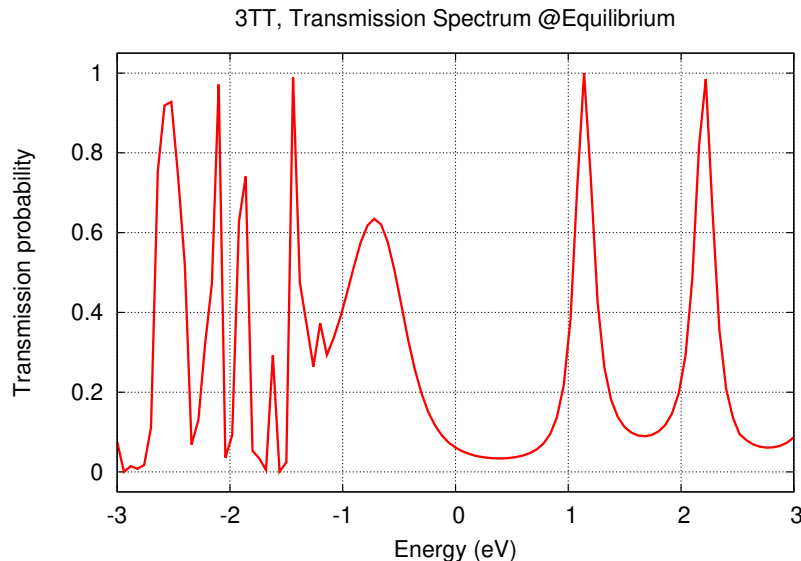

Figure 3: TS of 3-rings thiophene molecule at equilibrium
Let us start with the 3TT molecule. If you don't remember the structure have a look at the description in the theoretical section. Let us observe in figure 3 the Transmission Spectrum (named TS from now on) at the equilibrium ($V_{ds} = 0$ V) calculated using an atomistic calculation. The figure shows two clear peaks in the LUMO side and a few peaks in the HOMO side. However, the main current contribution is generated by the peaks close to the Fermi level (0 eV); therefore, the HOMO and LUMO peaks. Also, second-order HOMO-1 and LUMO+1 peaks play a relevant role in the conduction.
Let us consider to apply to the molecular transistor a drain-source voltage V_{ds} in the range comprised between -3 V and 3 V. Let's assume that the Transmission Spectrum (TS) remains the same of figure 3 when the V_{ds} is varied.
EEBESD_focus1.Q5: What do E0 array and all its values represent? HINT: Refer the values contained in E0 to the TS at the equilibrium shown in figure 3.